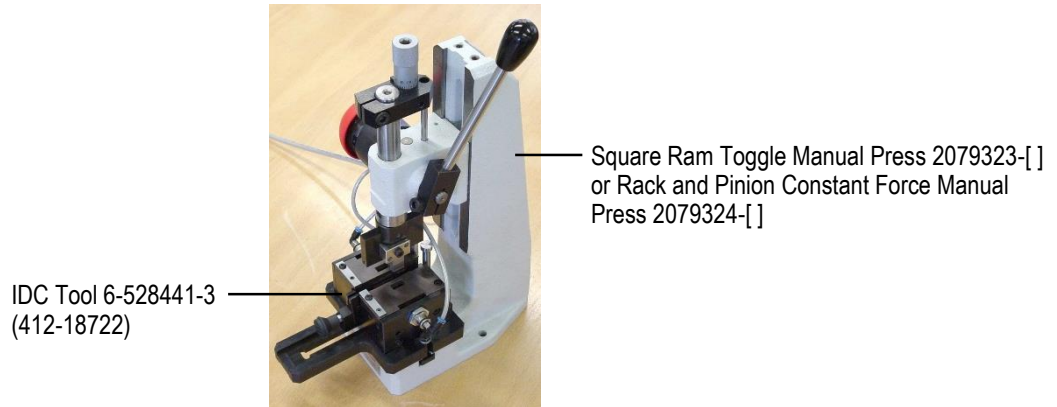

Figure 6
4. The distributor body must be positioned in the center of the distributor cover so that the locking lances hold it in place. There will be an audible click when the distributor body is fully seated. See Figure 6, Detail A.
5. One side of the distributor cover must be rotated against the distributor body so that the locking lances hold it in place—the outlets must sit in the outlet openings and the wire must be positioned in the wire strain relief. See Figure 6, Detail B.
6. The other side of the distributor cover must be rotated against the distributor body so that the locking lances hold it in place—the outlets must sit in the outlet openings and the wire must be positioned in the wire strain relief. There will be an audible click when the distributor cover is fully closed. See Figure 6, Detail C.
Connector termination tooling part numbers and instructional material are given in Figure 6.